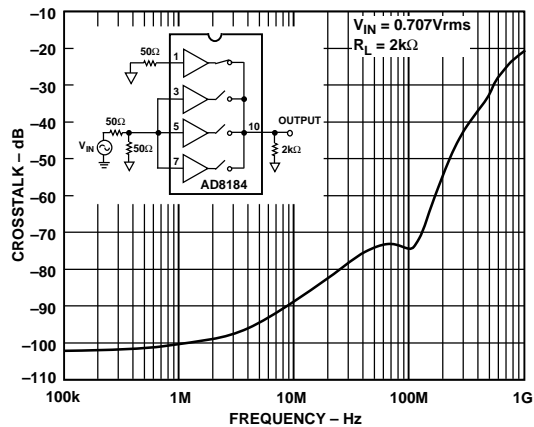

Figure 12. All-Hostile Crosstalk vs. Frequency
- ⁶Select an input that is not being driven (i.e., A0 and A1 are logic 0, IN0 is selected); drive all other inputs with $V_{IN} = 0.707$ V rms and monitor the output at $f = 5$ and 30 MHz. $R_L = 2$ k Ω (see Figure 12).